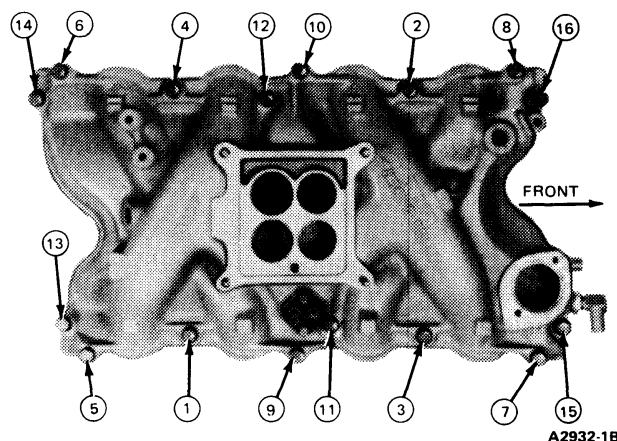

FIG. 16 Intake Manifold Torque Sequence
6. Be sure intake manifold gaskets are properly aligned. Then install attaching bolts and nuts snugly to manifold. Tighten bolts and nuts in sequence (Fig. 16) to specifications listed at the end of this Part to compress gaskets and seals. Then repeat sequence, tightening bolts and nuts to same specifications.